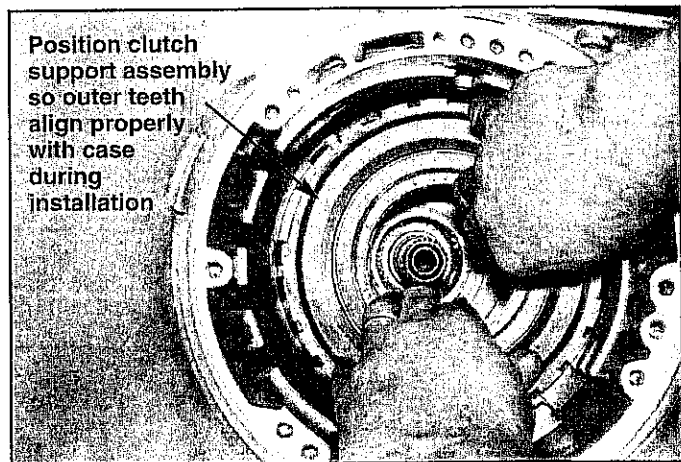

FIGURE 47
STEP 12. Guide clutch support into case, aligning splines properly. (See Fig. 47) Push down on support so it engages retaining spring (clip) and seats firmly against case. Select clutch support snap ring. Install snap ring into case. The ends of the snap ring must line up on either side of the retaining clip to clear it. Make sure the snap ring is fully seated in its groove.